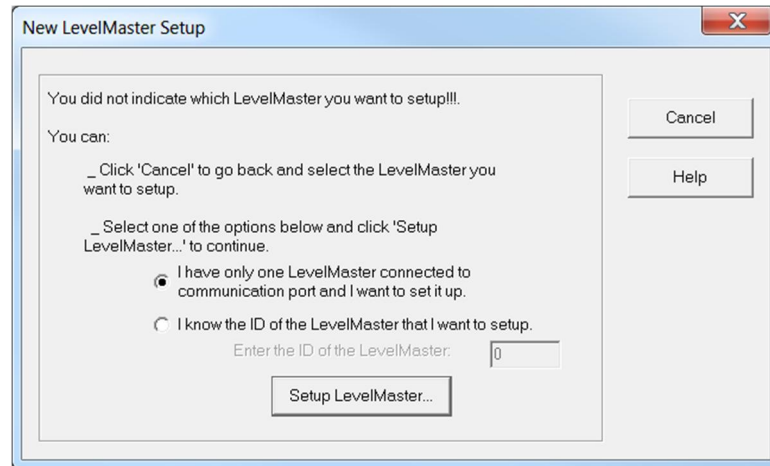

Figure 40: New LevelMaster Setup
6. Click **Setup LevelMaster**. The New LevelMaster Setup window displays (Figure 40).